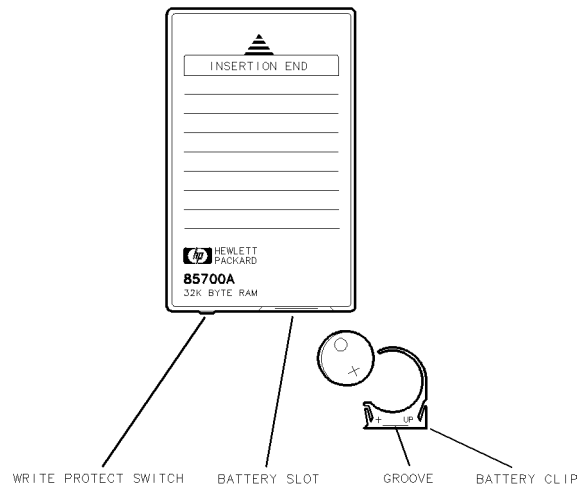

Figure 3-3. Memory card battery replacement.
1. Locate the groove along the edge of the battery clip. Refer to Figure 3-3.
4. Insert the battery clip into the memory card, holding the clip as oriented in Figure 3-3. (Face the "open" edge of the clip toward the write-protect switch on the memory card.)